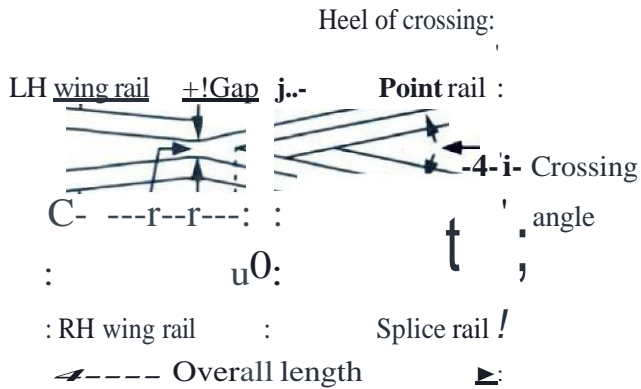

Fig. 2.24.4. Ordinary or acute crossing.
- i. Fig. 2.24.4 shows a typical ordinary or acute built-up crossing.
- ii. The gauge lines intersect at elbow as shown in Fig.2.24.4 and all measurements for locating the crossing are to be taken from elbow.